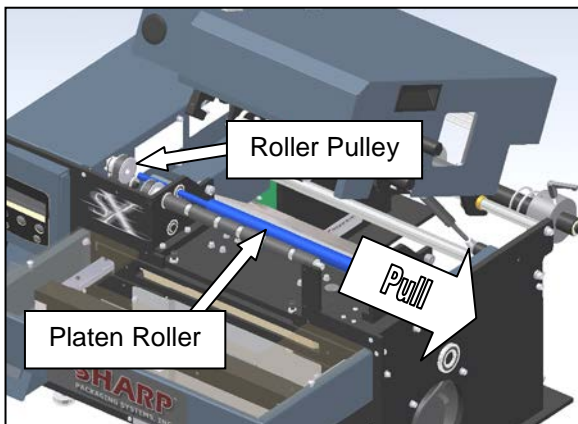

Figure 3-179. Removing the Platen Roller
6. Slide the platen roller (shown in Figure 3-179) out of the machine to the right, freeing it from the left bearing plate. While pulling the roller, place one hand on the roller pulley, as this pulley will be free to fall once the platen roller shaft is removed. Between the pulley and the middle frame plate is a nylon washer. **Be careful not to misplace this washer, as it is needed for proper belt alignment.**